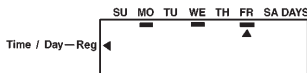

fig. 15
- 6) Press **↑** to confirm, and the chosen day will be underlined. The regeneration will take place on the underlined days (fig. 15).